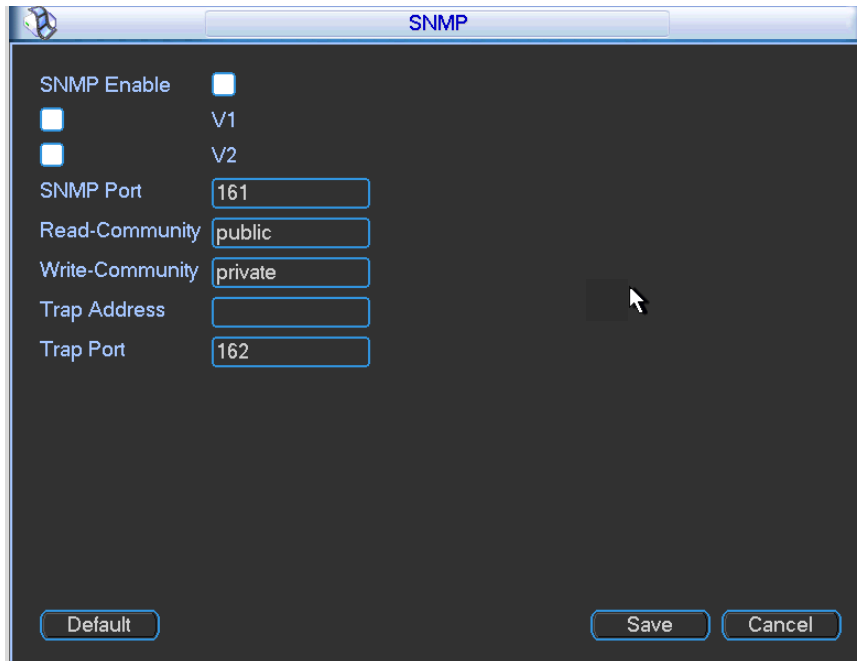

Figure 3-58
1. In Figure 3-58 above, check the box to enable the SNMP function. Input the IP address of the PC than is running the software in the Trap address. You can use the default setup for the rest of the items.